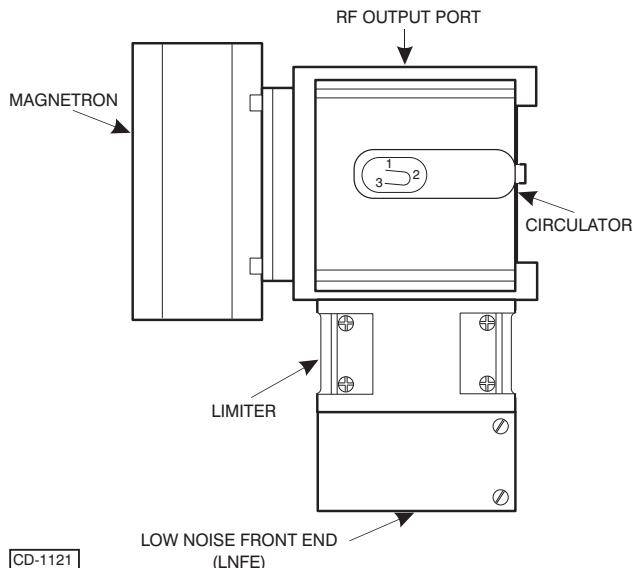

Figure 5a - X-Band RF Head (CTX-A230)
- 16 The RF Head is shown in Figure 5a, below.